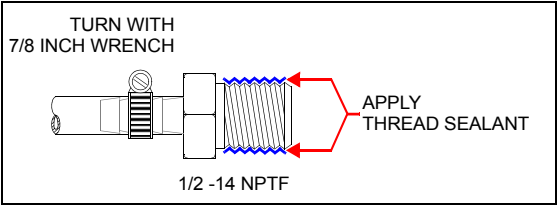

Figure 2: Water Line Connection
- 5 Connect the cooling water in line (3/8 FPT, see Figure 2).